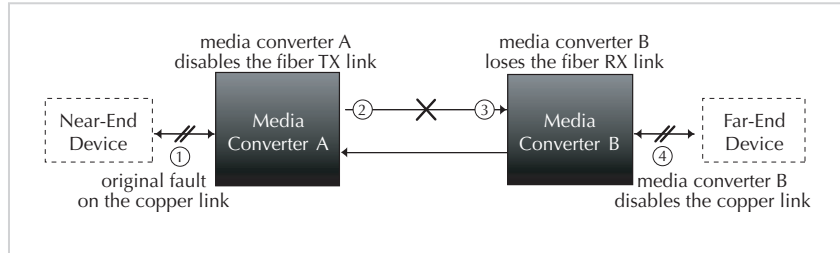

Figure 14: Link Pass-Through
The SIBTF10xx-110 industrial switch provides a Link Pass-Through feature, which allows monitoring its fiber (FX) and copper (RX) (*receive*) ports for signal loss. Refer to Figure 14, in the event of an RX signal loss (1), the industrial switch will automatically disable the TX (*transmit*) signal (2) thus “passing through” the link loss (3). The far-end device is automatically notified of the link loss (4), which prevents data losses by transmitting data over an invalid link unknowingly.